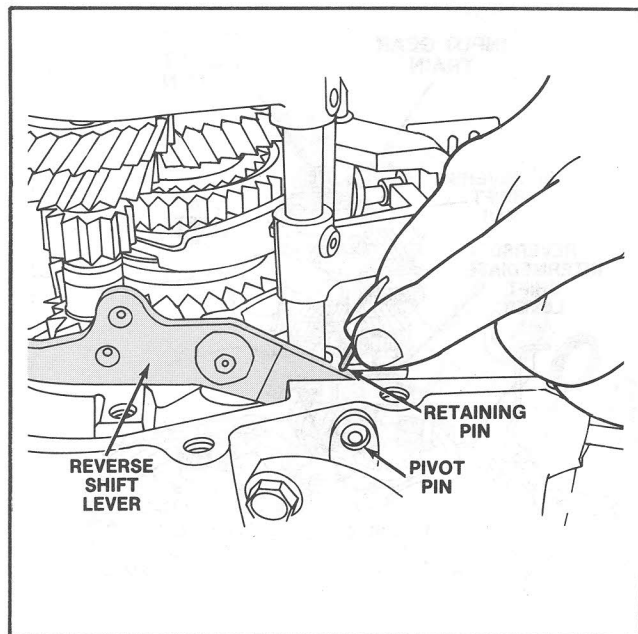

Figure 42 Retaining Pin Removal
12. Remove the reverse shift lever pivot pin retainer. (Figure 42).